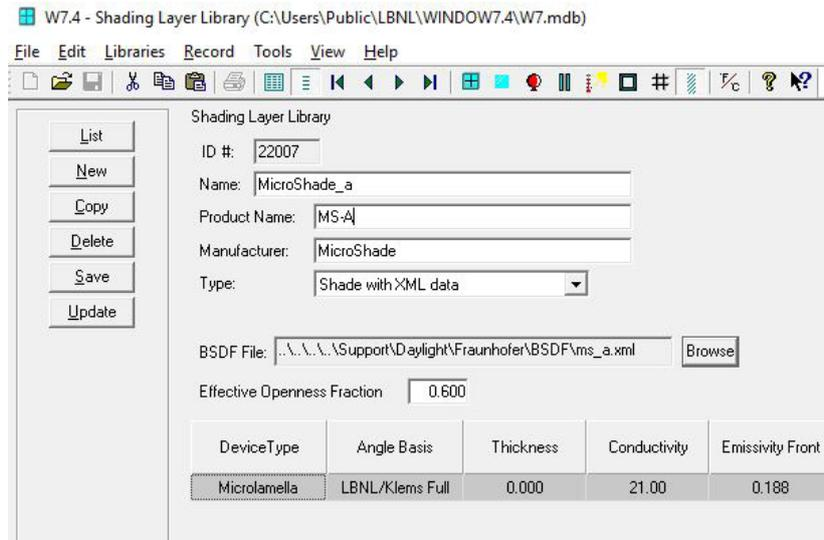

Figure 4: MicroShade[®] BSRF file has been imported.
- Click "Browse" and choose the MicroShade[®] BSRF file you want to import. Values will now appear in the table. See figure 4.